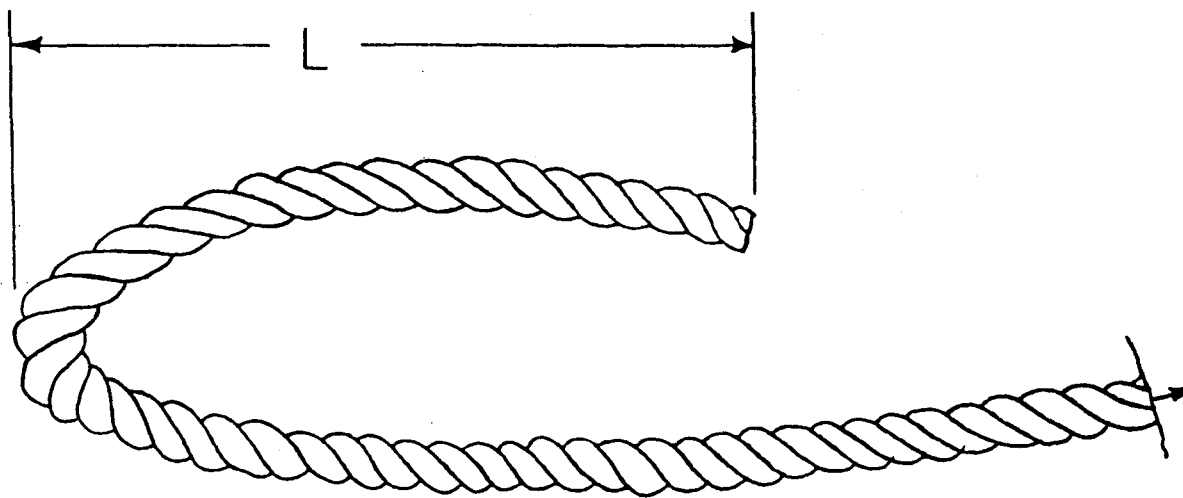

FIGURE 3-5
3. Form kink or sharp bend in cable as shown in Figure 3-5. This can be formed by bending cable over and beating it with a large rubber hammer. The free end should be cut to length (L). (See Table 1 for L)